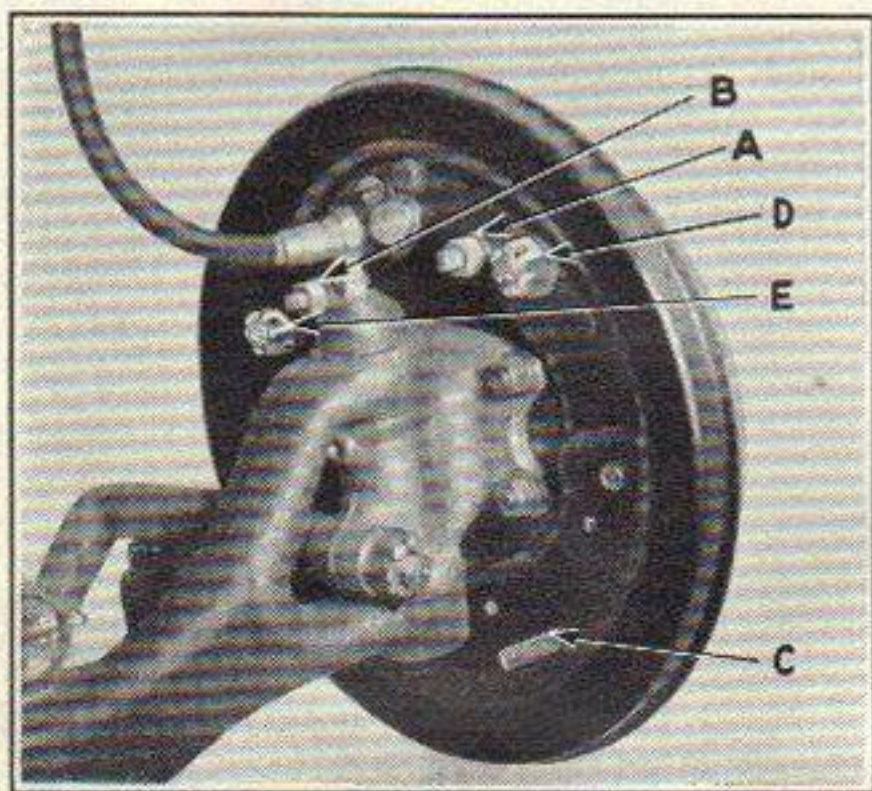
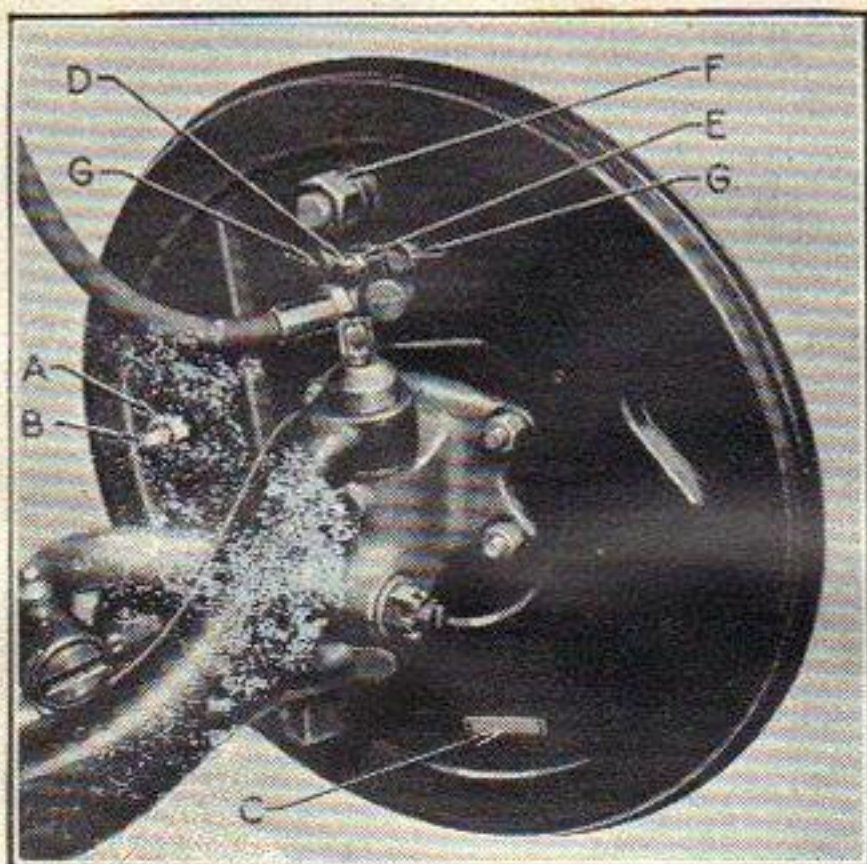

Figure 40
Figure 41
5. On Hudson 112 and Utility Coach and Coupe, insert .010" feeler gauge between brake drum and upper end of lining of primary or upper shoe. Loosen eccentric lock nut (A), Figure 40, and turn eccentric in direction of forward wheel rotation until feeler gauge is just snug. Hold eccentric in position and tighten lock nut.
6. Repeat the above operation on the secondary or rear shoe by adjusting eccentric (B).
8. Loosen eccentric nut (A), Figure 41, and turn eccentric (B) in direction of forward wheel rotation until feeler gauge is just snug at anchor (top) and adjusting (lower) ends of secondary shoe. Hold eccentric in position and tighten lock nut.
13. Back off adjusting screws through slot (C), Figure 40 or 41, until brake drum is just free of lining drag. Be sure to back off each screw the same number of turns. Replace adjusting hole covers on brake drums and backing plates.